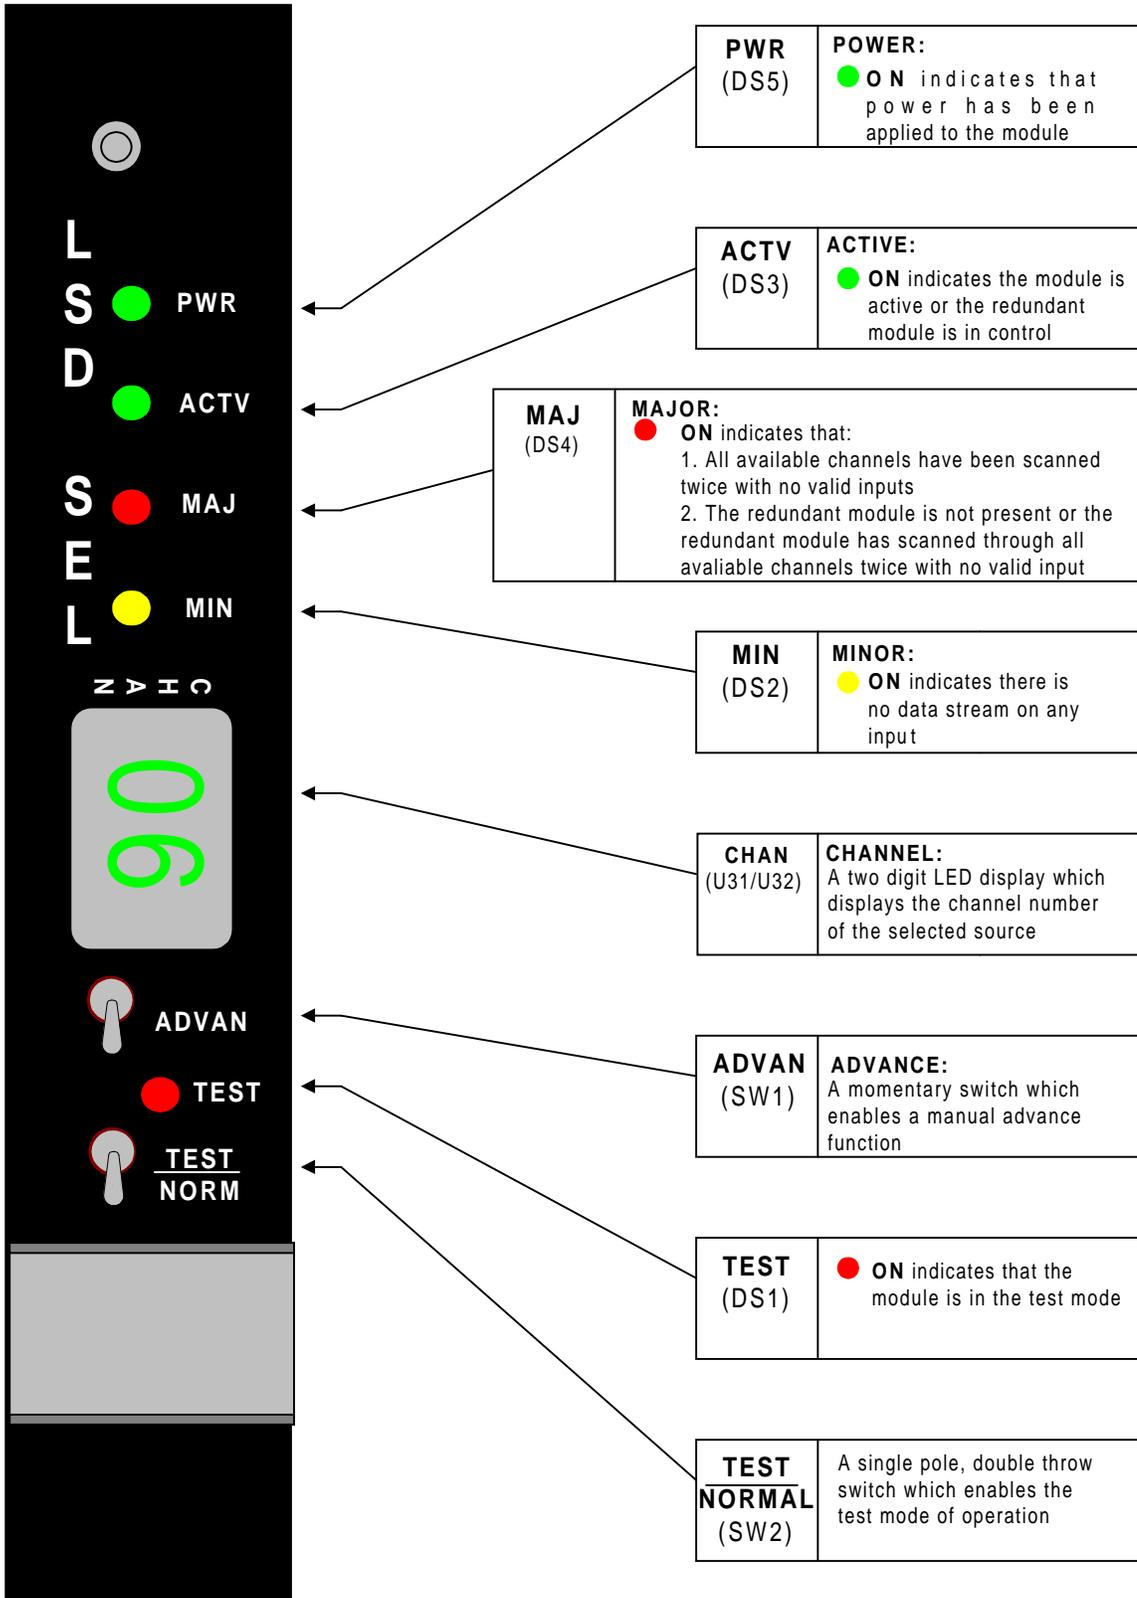

Figure 5 - LSD Selector Front Panel
2. Set **Test/Norm** switch S2 on the LSD Selector Module to the **Test** position and verify that the red "test" LED DS1 is ON (*Figure 5*).